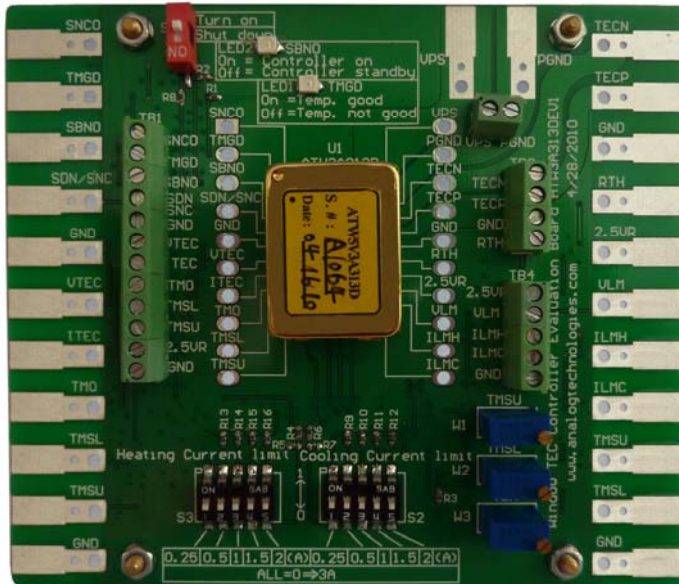

Figure 1. Physical Photo of ATW3A313DEV1
The ATW3A313DEV1 Evaluation Board is consisted of a complete application circuit for driving a TEC controller. It can set the output current, the output current limits, and has 2 LEDs for indicating the working mode of the controller, standby mode or working mode, and if the temperature is within the pre-set temperature window, temperature good, respectively. The board has numerous connection/soldering pads and terminal connectors for making connections with external components and instruments. Its physical photo is shown in Figure 1.
2. Plug in the ATW3A313D controller onto the evaluation board as shown in Figure 1.